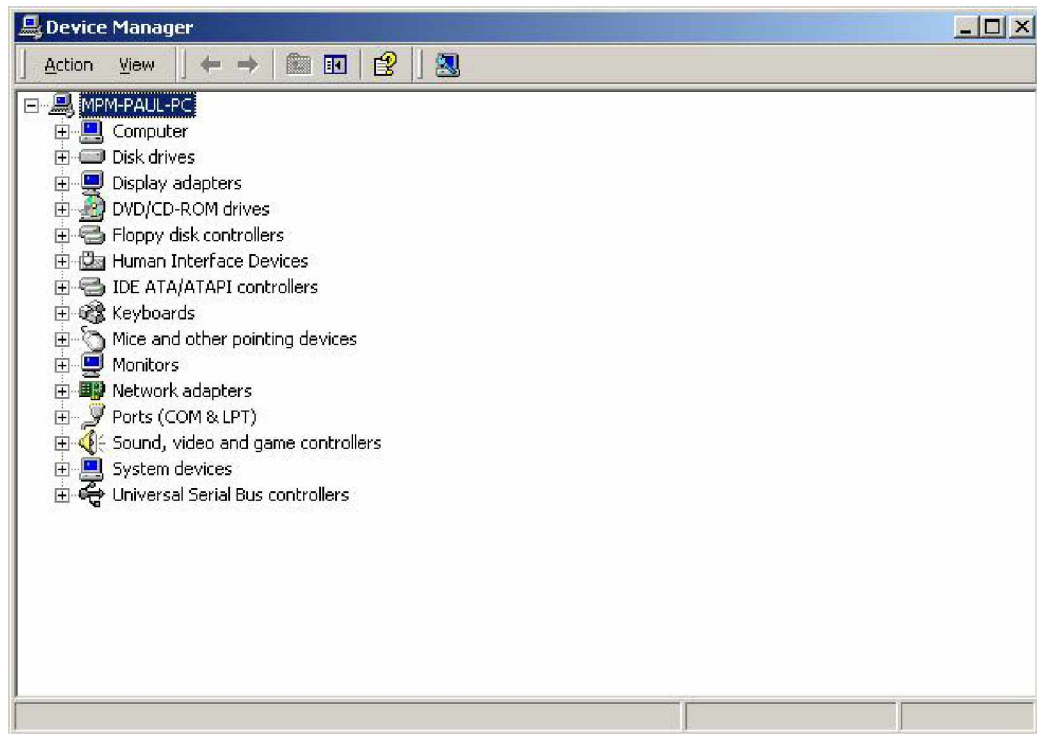

Figure 6-34: Device Manager List
Step 4: A list of system hardware devices appears (**Figure 6-34**).